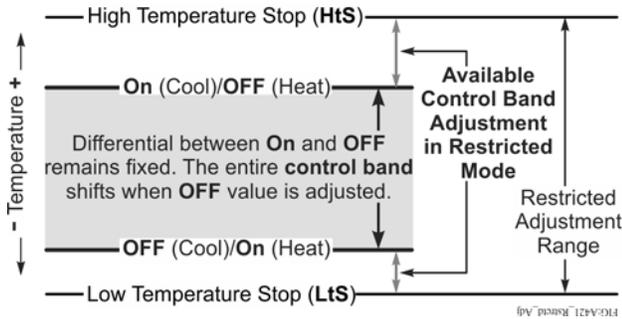

Figure 7: Adjustment Behavior in Restricted Adjustment Mode
Restricted Adjustment Mode: The HtS and LtS values define the restricted adjustment temperature range and are enforced only when the A421 control is set to the restricted adjustment mode (Figure 7). See *Restricting User Adjustment*.
You can restrict user adjustment of the A421 control to either just OFF value (control band) only and limit the range of this value (Figure 7).
- The **OFF** value can only be adjusted to values that maintain the entire control band within the restricted temperature adjustment range defined by HtS and LtS. See Figure 7.
2. Select the **OFF** and **On** values that define the application's required control band (Figure 7).
3. Change the **HtS** and **LtS** temperature values to define the restricted adjustment range (Figure 7).
Control adjustment is now restricted to changing only the **OFF** value, which shifts the On/OFF control band within the restricted adjustment range defined by HtS and LtS (Figure 7).